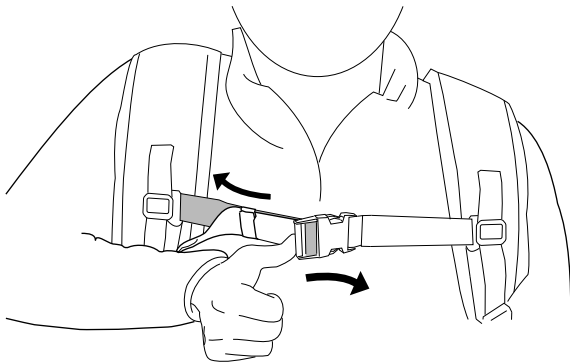

Figure 15
8. If the sternum strap is too tight, push sideways on the adjuster to lengthen the straps (Figure 15).